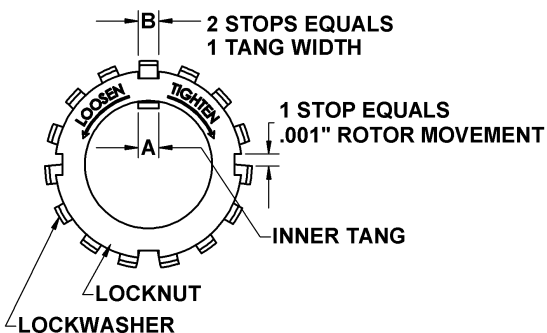

Figure 8— Locknut Assembly
14. Insert the shaft into the cylinder (12). Carefully slide the shaft through the installed mechanical seal (153) and bearing. Align the notch in the rotor with the drive tang on the seal jacket of the mechanical seal. Rotate the shaft to ensure the drive tangs of the mechanical seal are engaged in the notches in the rotor.
15. Install lockwasher (24B) on the shaft protruding through the bearing in the cylinder with the tangs outward. Ensure the inner tang "A" of the lockwasher is engaged in the slot in shaft threads. Bend it slightly, if necessary. (See Figure 8.)
29. With the tell-tale hole towards the bottom of the pump, carefully install the head assembly (20) over the shaft and against the cylinder (12). Use care not to damage the mechanical seal components. Align the drive tangs of the mechanical seal with the notches in the rotor.
30. Rotate the head (20) to engage the drive tangs of the seal jacket with the slots in the rotor.
31. Install and finger tighten the head capscrews (21). The head capscrews will be fully tightened after the second locknut is installed.
32. Install lockwasher (24B) on the shaft protruding through the bearing in the head with the tangs outward. Ensure the inner tang "A" of the lockwasher is engaged in the slot in shaft threads. Bend it slightly, if necessary. (See Figure 8.)
43. Tighten the opposite locknut (24A) by hand until it is snug against the bearing (24). Then, using a spanner wrench, tighten the nut the width of one lockwasher tang "B". Tighten just past the desired tang, then back off the nut to align the tang with the locknut slot. Secure the nut by bending the aligned lockwasher tang into the slot in the locknut. The pump should continue to turn freely when rotated by hand.
It is important that the bearing locknuts (24A) and lockwashers (24B) be installed and adjusted properly. Overtightening locknuts can cause bearing failure or a broken lockwasher tang. Loose locknuts will allow the rotor to shift against the discs (71), causing wear. See Figure 8.